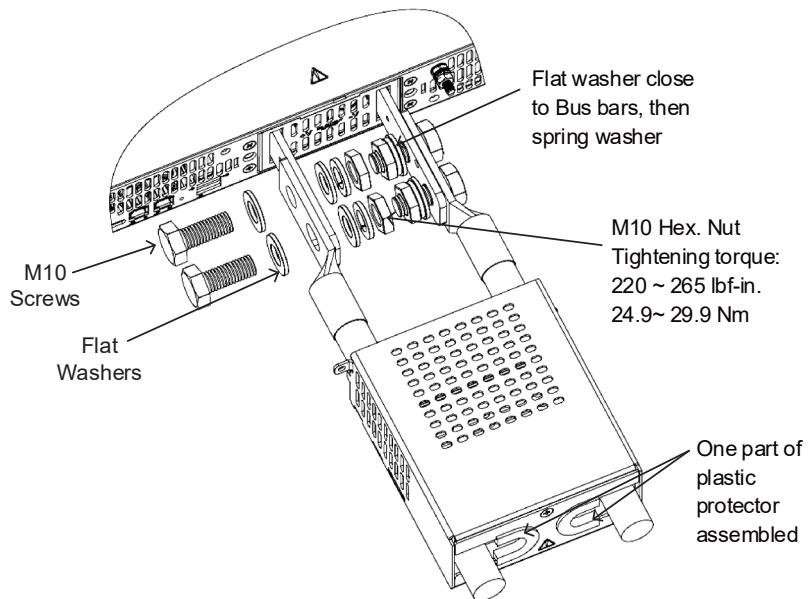

Figure 4-53: Wires Assembly
6. Fix the wires to the bus bars as shown in Figure 4-53. Close the output protection assembly with one part of the plastic protector assembled on each side, as shown in Figure 4-53. For 7.5kW assemble sense protector as well, refer to Figure 4-54 for 7.5kW output protection assembly.